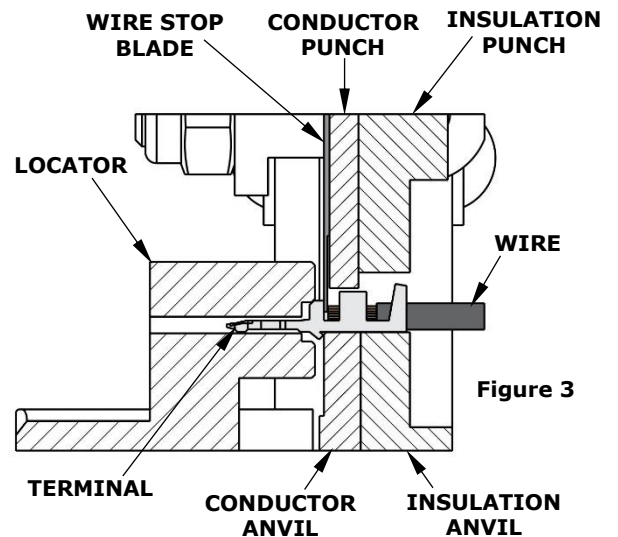

Figure 3
- Maintain a light and constant pressure on the wire that is seated in the terminal at all times. (Do not let go of the wire.) Be sure to hold the wire in place until the terminal is fully crimped. See Figure 3.